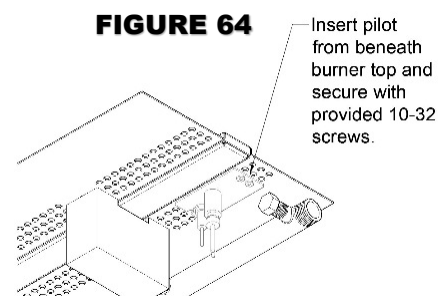

FIGURE 65
- 11) Insert the pilot assembly from underneath the existing burner pan to the area of the removed burner section (**Figure 65**).